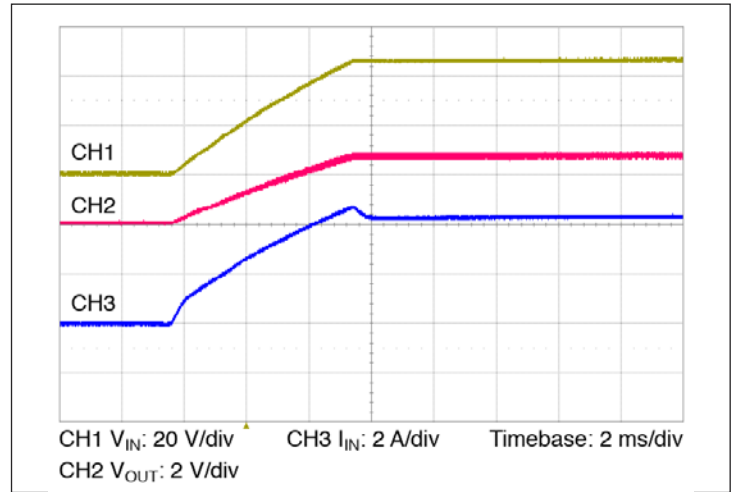

Figure 10 – Start up from application of V_{IN} ; VC pre-applied $C_{OUT} = 16000 \mu F$
- Normal operation (VC applied prior to V_{IN}): In this case the controller is active prior to ramping the input. When the input voltage is applied, the VTM output voltage will track the input (See Figure 10). The inrush current is determined by the input voltage rate of rise and output capacitance. If the VC voltage is removed prior to the input reaching 26 V, the VTM may shut down.